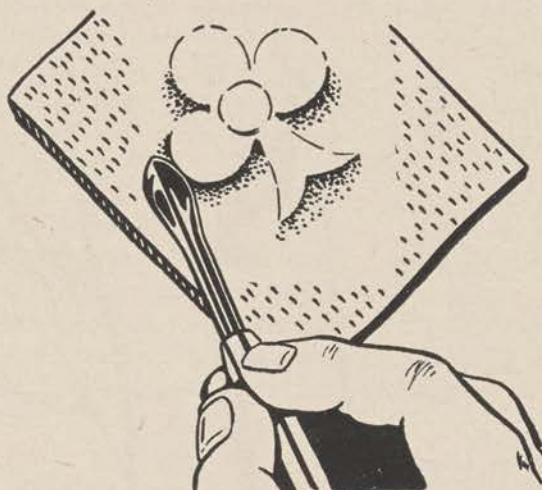

Figure 20.
b. Tooling should be done on a flat surface which will not absorb water from the leather. A slab of marble or a sheet of glass is excellent as it keeps the leather cool and provides a smooth surface. To lower the background evenly, use the broad end of the modeling tool illustrated. Dampen the leather until it is thoroughly moist, but not wet enough to give out water when pressed. Starting at the edge of the design, push the background down with short circular strokes of the modeling tool (fig. 20). Always